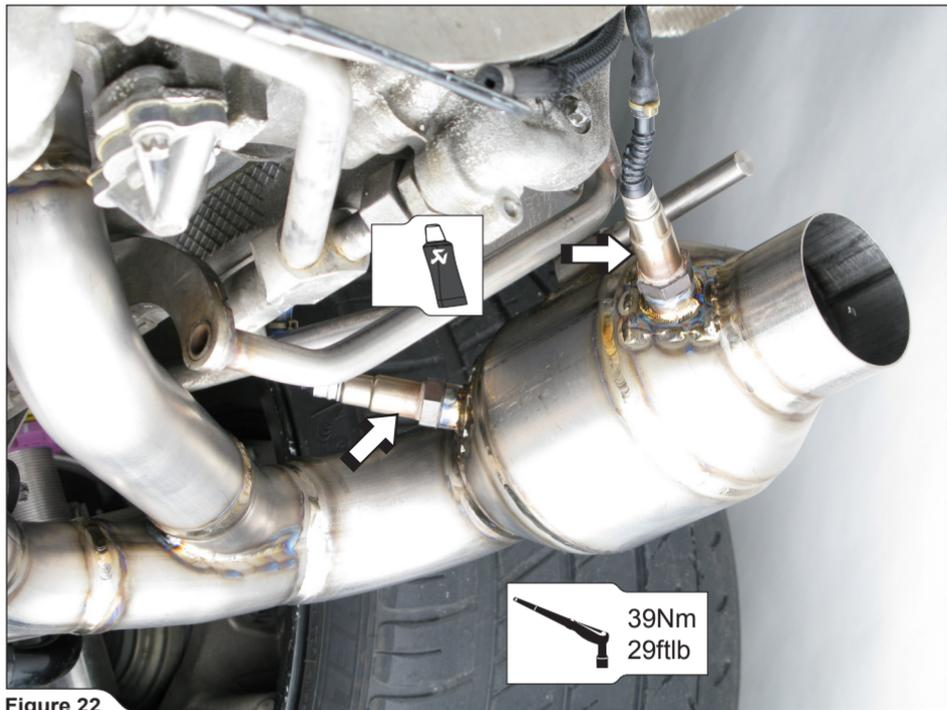

Figure 22
4. For Evolution and Evolution-Race: install all four lambda sensors on both sides of the vehicle (Figure 22).